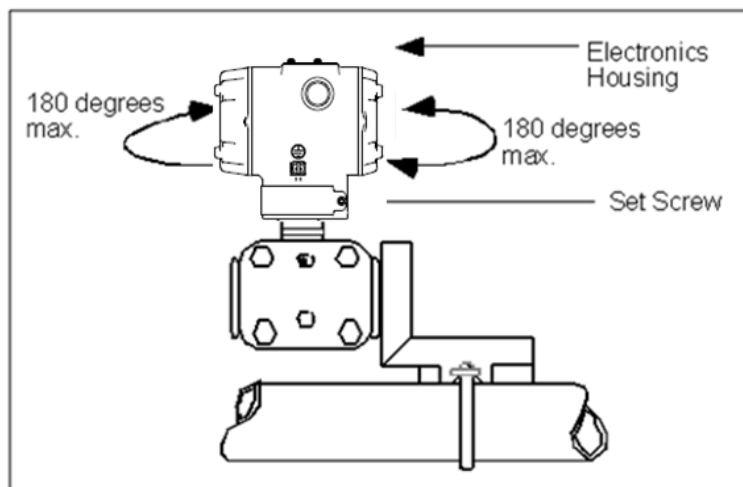

Figure 7 – Rotating the Electronics Housing
3. Loosen the set screw on the outside neck of the transmitter one (1) full turn.
4. Rotate the electronics housing a maximum of 180° left or right from the center to the position you require, and tighten the set screw 8.9 to 9.7 pound-inches (1.40 to 1.68 Newton meters), using a 4mm metric socket head wrench. See the following example and Figure 7.